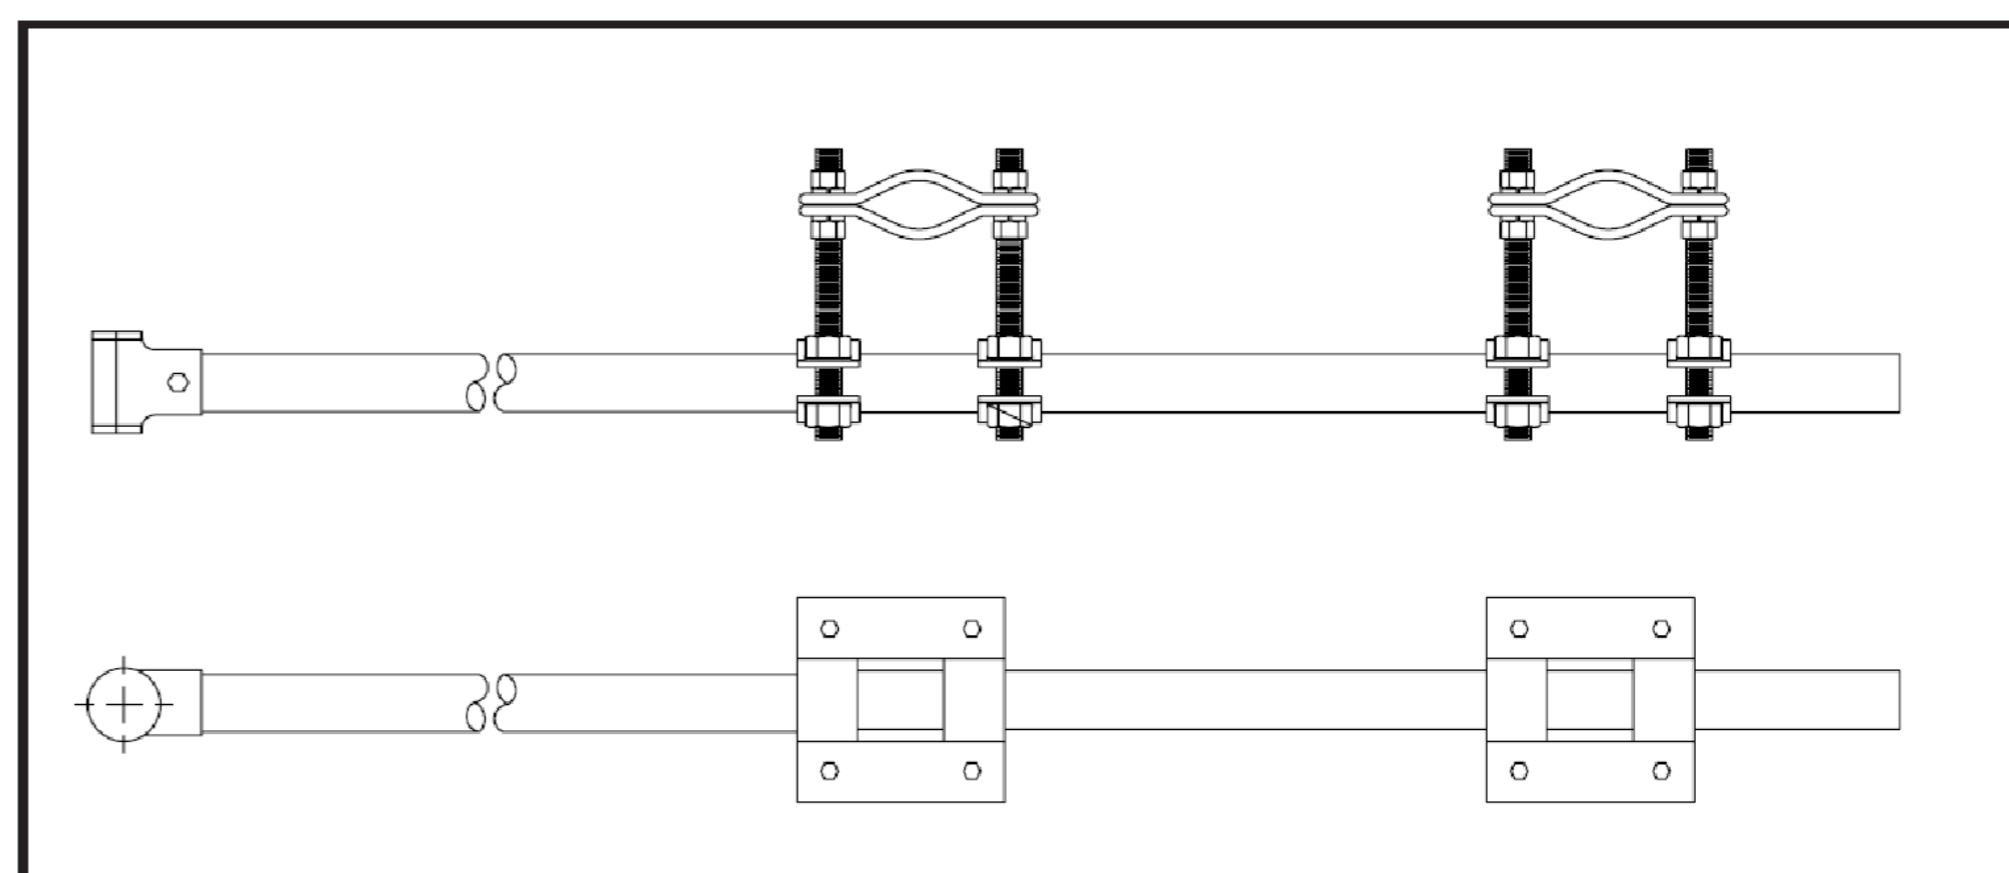
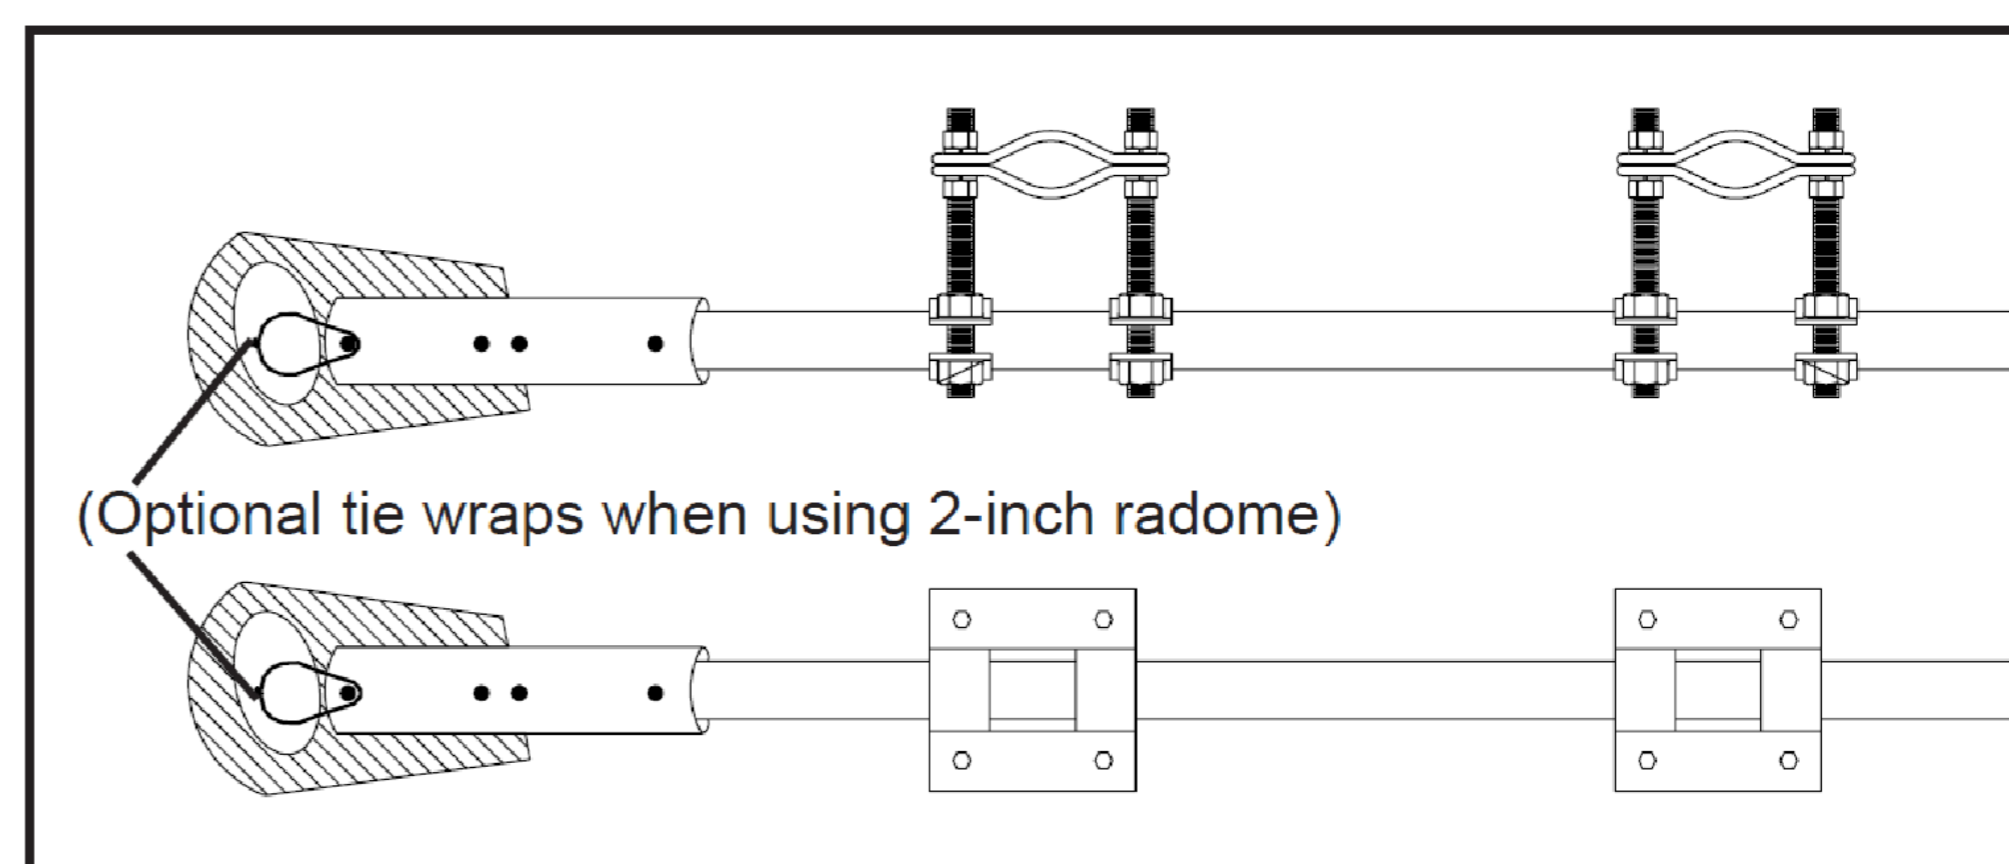

Figure 1. DB5030 Fiberglass Outrigger Assembly.
Figure 2. DB5004S-MTD™ Fiberglass Outrigger Assembly.
- DB5030 (Figure 1) and DB5004S-MTD (Figure 2) outriggers are designed to limit tip deflection on fiberglass antennas in high wind conditions.